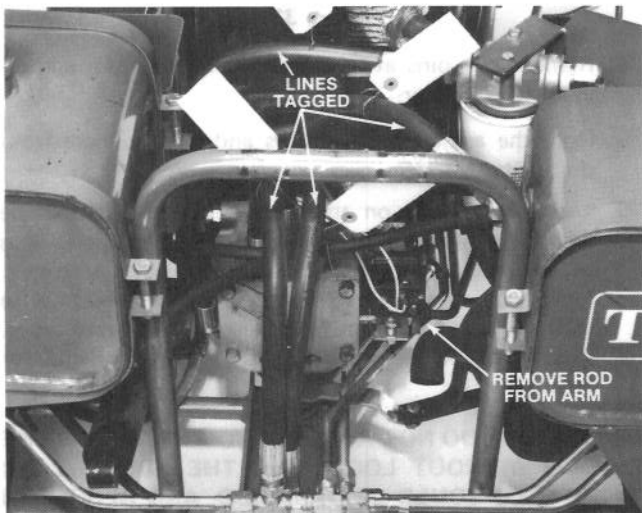

Figure 29
2. Tag all the lines to the pump so they can be reassembled properly (Fig. 29).
4. Remove the cotter pin and remove the end of the pump control rod from the lever arm (Fig. 29).